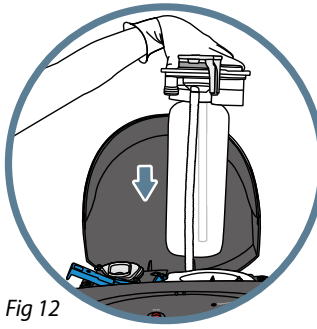

Fig 12
- Insert the new SmartFlo™ cartridge and secure into place by pressing down (Fig 12).